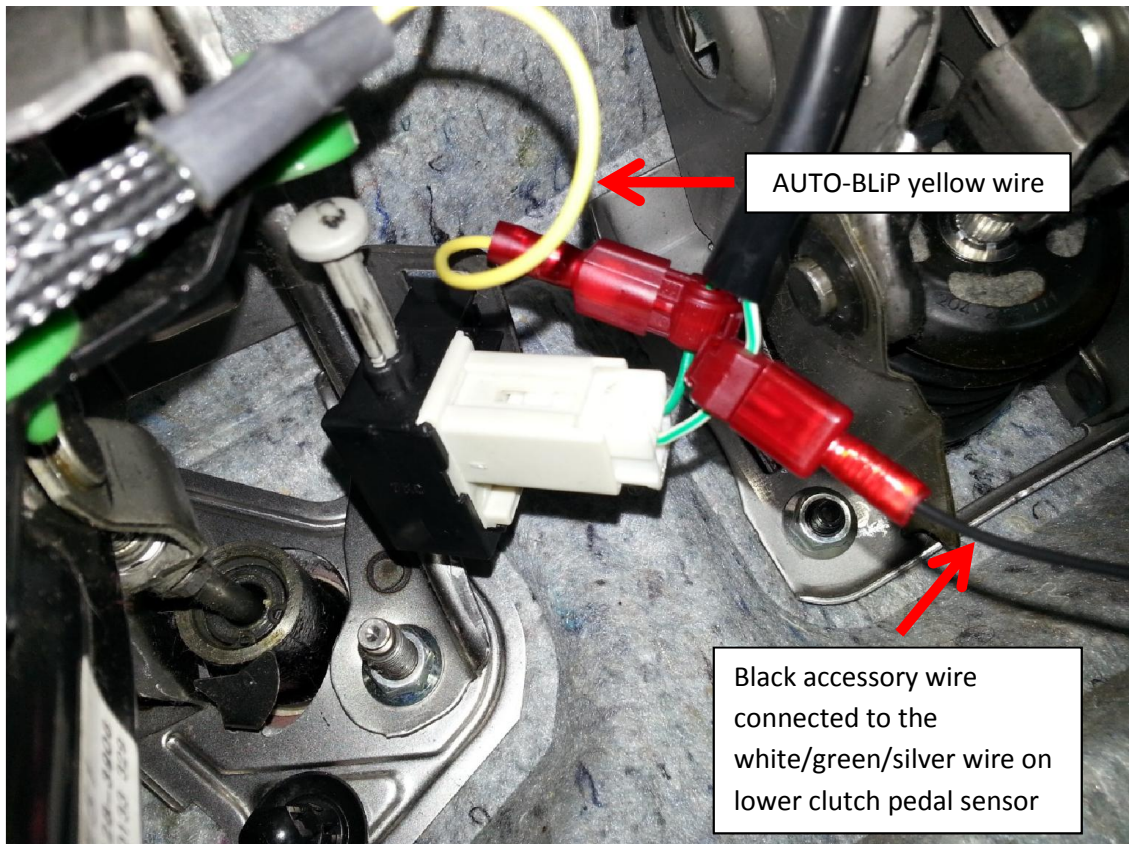

Figure 5 (Lower Clutch Sensor wiretap placement)
10. Attach supplied wiretap to the **white/green/silver** wire on the LOWER clutch pedal sensor (**Figure 5**).
11. Connect one end of the black accessory wire to the wiretap in **Step 10** (**Figure 5 & 7**).
15. Attach supplied wiretap to the **green/white** wire on the LOWER clutch pedal sensor (**Figure 5**).